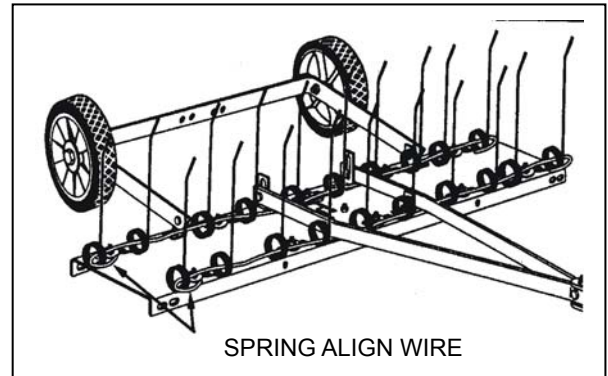

FIGURE 8
14. Assemble the spring align wires through the front and rear rows of spring tines, passing the wires in between the hitch mount arms and the tine shield. Bend the ends of the wires to secure them. See figure 8.